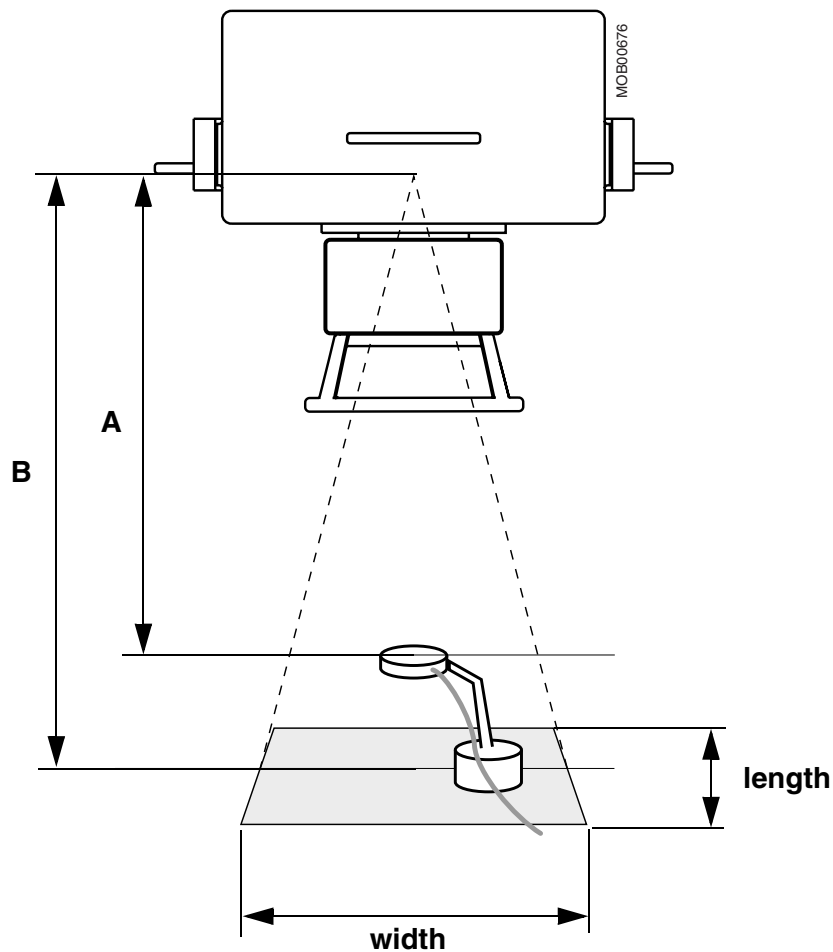

Fig. 2 Setup
- Set up the POLYMOBIL and the dose meter as shown in Fig. 2.
- Measure the Focus - dose meter distance (**A** / Fig. 2) and then the **width** and the **length** of the light field on the surface. For optimal accuracy, place an unexposed film cassette on the surface, and measure the exposed area width and length on the film after an exposure has been released.
- Measure the Focus-light field/surface distance (**B** / Fig. 2).